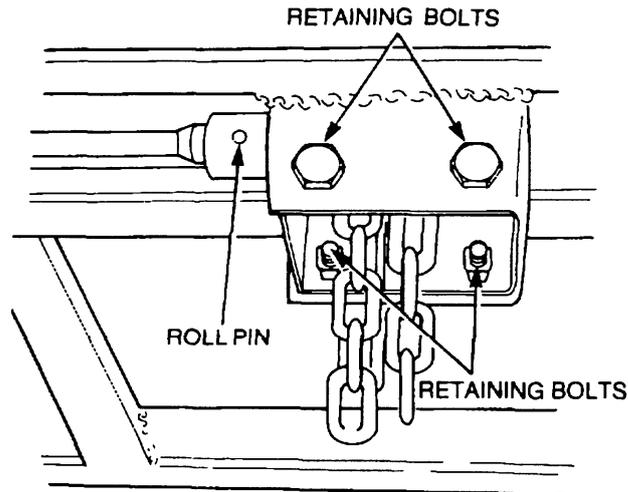

Figure 205 Spare Wheel Carrier Removal
- c. Withdraw the shaft from the coupling (Figure 205).